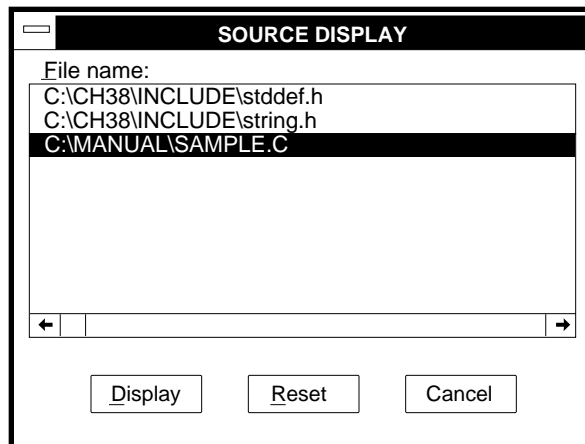

Figure 4-9 SOURCE DISPLAY Dialog Box
- (1) Select the [Source - Display...] command from the View menu; the SOURCE DISPLAY dialog box shown in figure 4-9 appears.
- (2) Select from [File name :] the file name to be displayed in the source area by placing the mouse pointer on the file name and clicking it.
- (3) Click the <Display> button to display the source file in the source area.